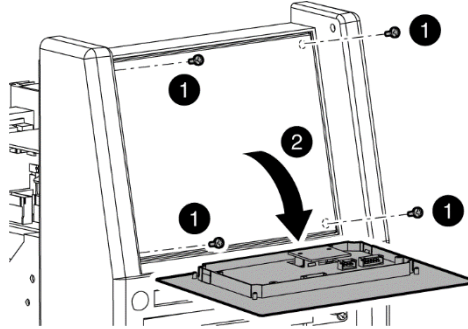

Figure 5-2 VRD ON/OFF Step B, C
- b) Remove four mounting screws from the control panel (see Figure 5-2).
- c) Access the VRD control by gently prying back the front panel controls to reveal the VRD on/off potentiometer (see Figure 5-2).